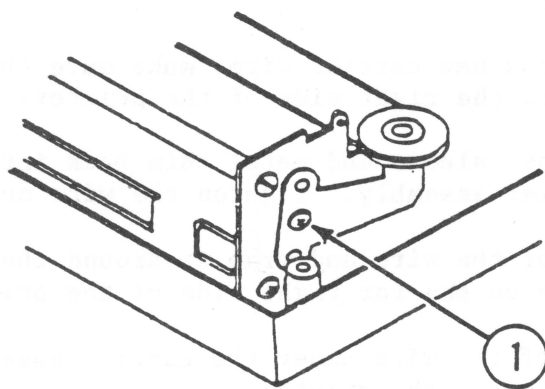

FIGURE 12
14. Tighten the tension screw until the wire is taut. (See Figure 12, #1.)